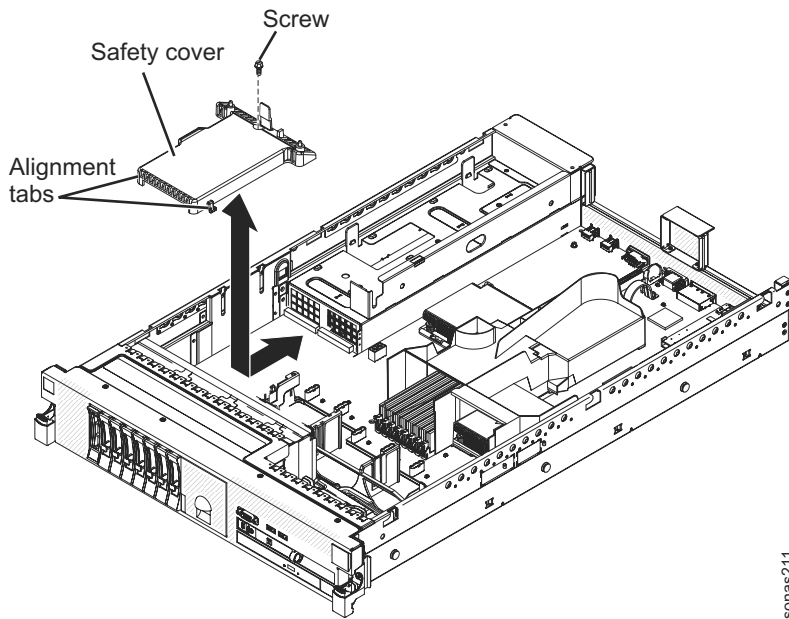

Figure 48. 240 VA safety cover
1. Line up and insert the tabs on the bottom of the safety cover into the slots on the system board. See Figure 48 on page 152.